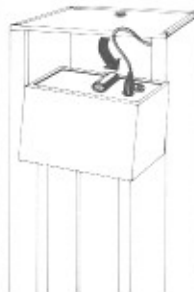

Fig. 2
1. Plug the power supply cable from the empty compartment of the speaker into socket ① on the receiver (Fig. 2) and insert the set into the compartment (Fig. 3).